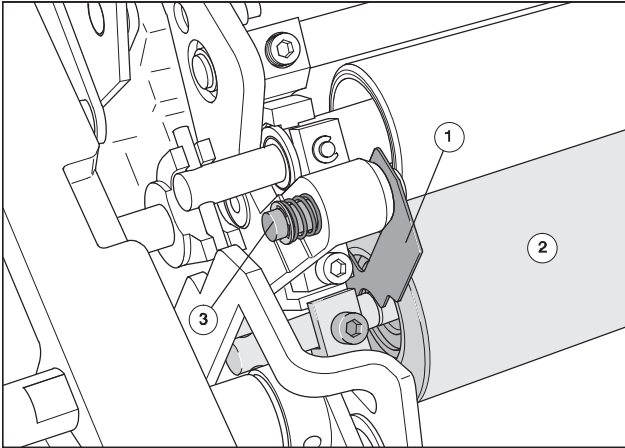

Fig. 23 Dampening unit gaskets
Lateral gaskets (Fig. 23/1) **only exist in the dampening system of PU 1**. They provide a lateral seal of the gap between dampening form roller and water pan roller. They must be removed and **cleaned daily**
(Fig. 23/2), you must remove the gaskets (Fig. 23/1).
3. Press the spring bolt (Fig. 23/3) on the side frame of the dampening system towards the press center.
4. Pull out the gasket (Fig. 23/1) from the top, and swing it toward the plate cylinder.